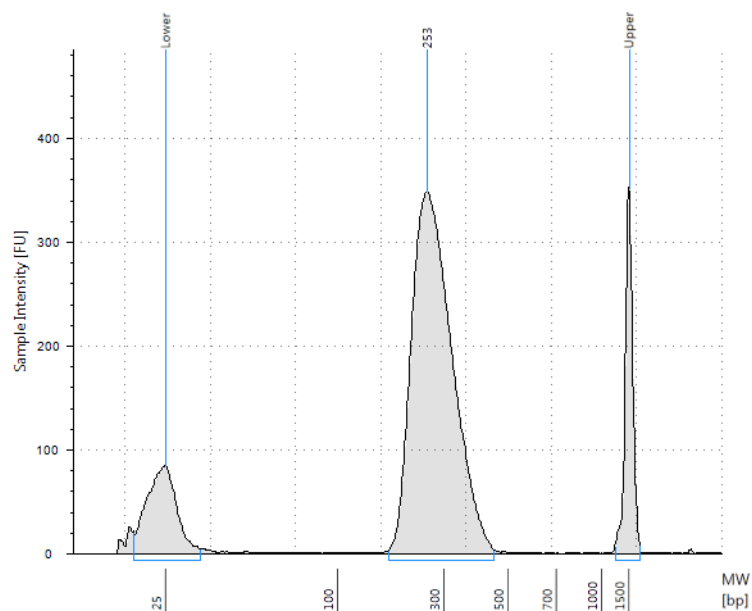

Figure 15 Analysis of amplified captured DNA using a High Sensitivity D1000 ScreenTape.
- 5 Verify that the electropherogram shows an average DNA amplicon size of 250 to 300 bp. A sample electropherogram is shown in Figure 15.